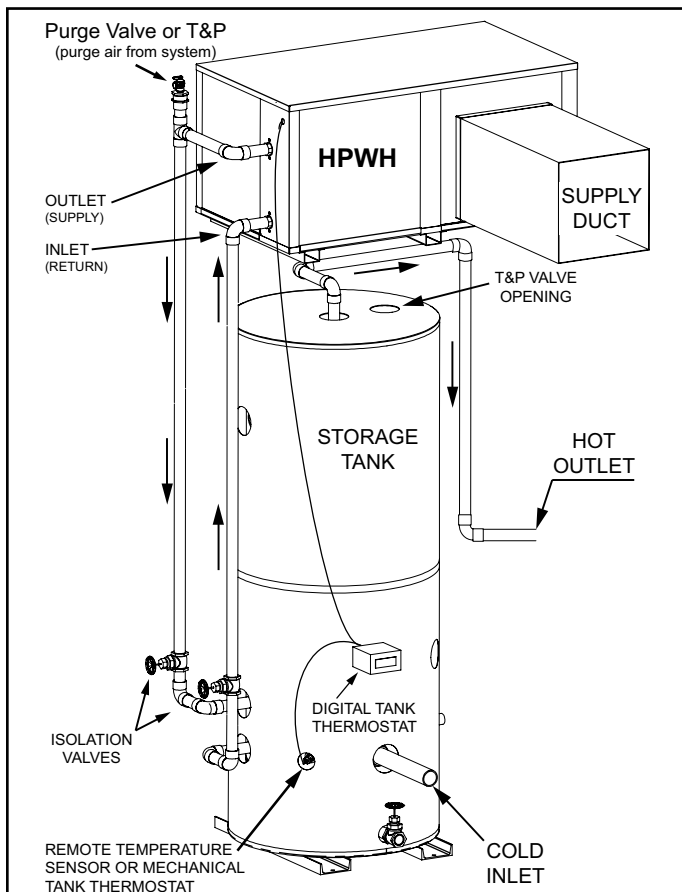
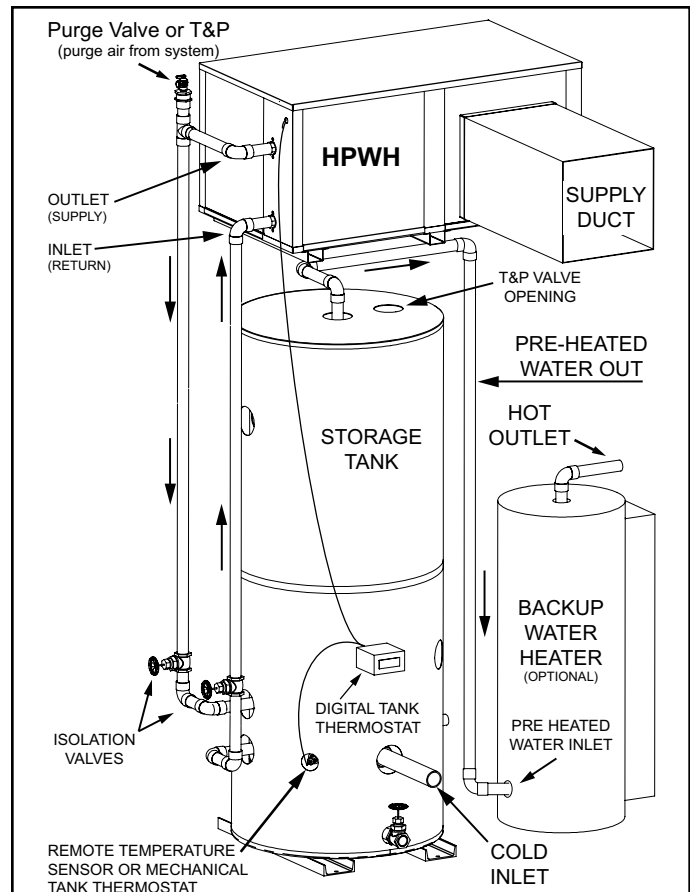

Figure 7
Figure 8
Water piping must be installed in accordance with the instructions in this manual and all local plumbing codes having jurisdiction. See Figure 7 and Figure 8 on page 18 and the Piping Diagrams on page 41 as a reference for these instructions.
4. The cold water supply must be connected directly to the storage tank at a low connection port on the storage tank on single tank and two tank preheat piping configurations for optimal efficiency. See Figure 7 and Figure 8 on page 18.
16. When the HPWH unit is installed above the storage tank install a Tee fitting at a high point in the outlet water line leaving the unit. Install a purge valve, or if required by local code, a T&P valve (temperature and pressure relief) in a branch of the Tee fitting that can be used to purge air from the HPWH unit during start up. See Figure 7 and Figure 8.
The HPWH must be plumbed to storage tank. The maximum stored water temperature the HPWH unit can produce in the storage tank is 140°F (60°C). Figure 7 shows a typical storage tank piping configuration. Tank ports must be large enough to handle the peak water flow rates through the water heating system. See Piping Diagrams on page 41 for detailed piping diagrams.
When water temperatures above 140°F (60°C) are required the HPWH and storage tank are piped in series (upstream) with a backup water heater. See Water Temperature on page 10. The backup water heater will raise the temperature of the preheated water to the final system temperature required. Figure 8 shows a typical preheat piping configuration.